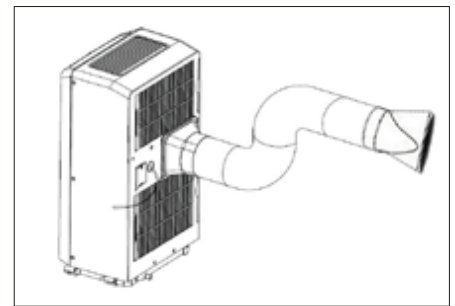

Fig 2.
B. Attaching the Exhaust Hose : Fig 2.